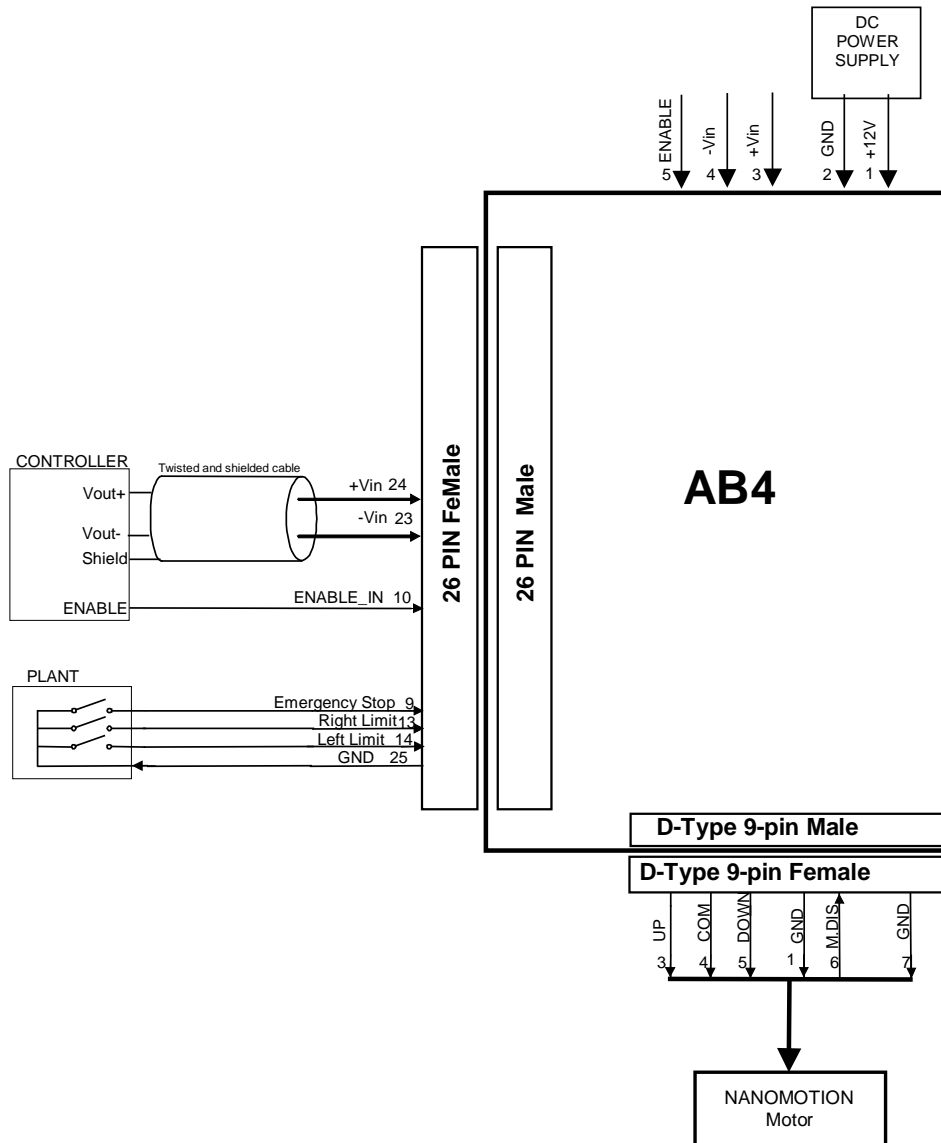

Figure 5: Differential Analog Input Connection
- Differential connection (see Figure 5)